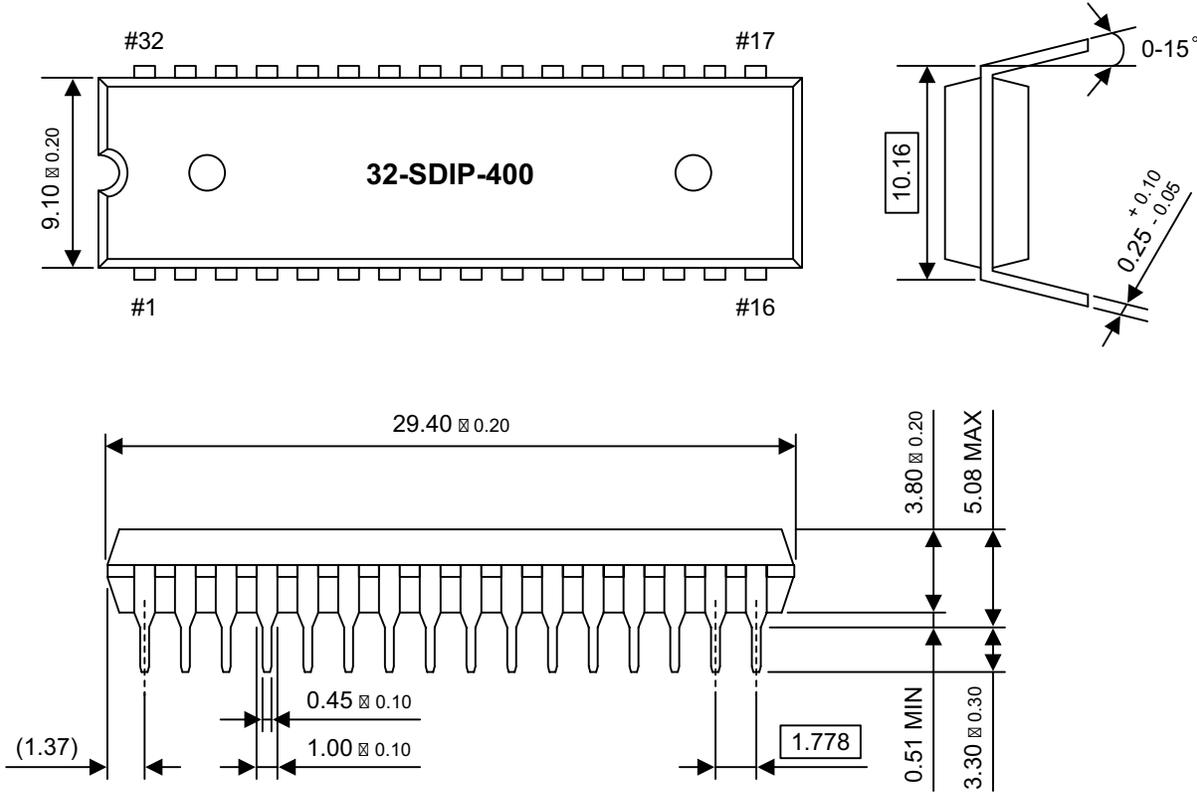

Figure 133. Package Dimensions, 32-Pin SDIP Package
A mechanical drawing of the 32-pin SDIP package is shown in Figure 133.
► **Note:** Dimensions in Figure 133 are expressed in millimeters.